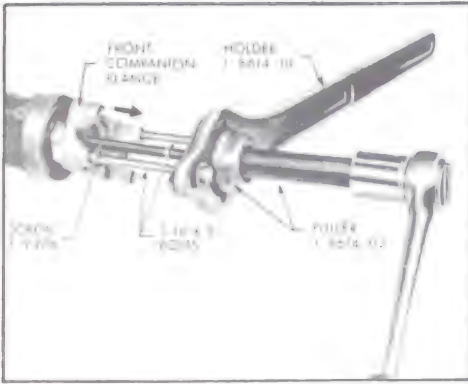

Figure 4-80—Removing Front Companion Flange
2. Remove front companion flange. Assemble Puller J-8614 as shown in Figure 4-80 and pull companion flange from mainshaft.